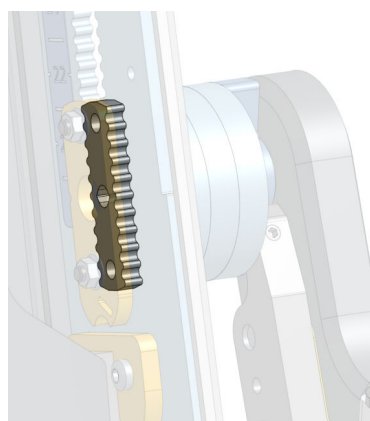

Figure 12. Toothed component used for height adjustment
1. Dismantle the arm support and pull it outwards (see [Figure 11, "Removing the arm support" \[21\]](#)). A toothed component will fall out, which is used to lock the height into position. See [Figure 12, "Toothed component used for height adjustment" \[21\]](#).